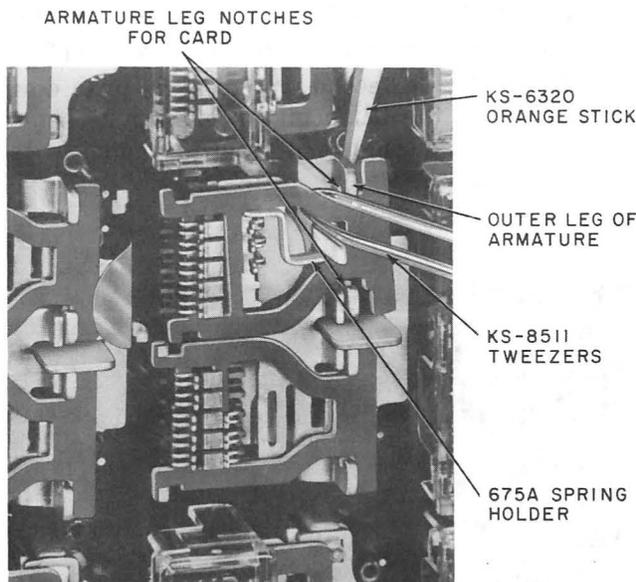

Fig. 28—Disengaging Card from Armature Legs
4.17 Apply the KS-6320 orange stick to the right side of the outer leg of the armature behind the card and hold the armature in the unoperated position as shown in Fig. 28. With the KS-8511 tweezers, grasp the upper section of the card as shown in the figure and move the card to the right to disengage it from the armature leg notches. Pull the card forward so it is in front of the armature legs. Remove the orange stick from the armature.
4.21 Make sure that the circuit designation has been stamped on the new card as covered in 4.08. With the black surface of the new card uppermost and the two notches for the balancing spring legs at the left, grasp the card at the upper notch with the KS-8511 tweezers. Place the card, black surface outermost, on the relay so the fixed contact springs are between the two vertical parallel sections of the card. Engage the card on the armature legs as follows: Apply the KS-6320 orange stick to the right side of the outer leg of the armature behind the notch for the card and hold the armature in the unoperated position (see Fig. 28). Grasp the upper section of the card with the tweezers, and move the card to the right and back so the card is in line with the notch in each armature leg. Remove the orange stick from the armature and guide the card into the notches.
(b) Disengage the card from the armature legs as follows: Apply the KS-6320 orange stick to the right side of the outer leg of the armature behind the card and hold the armature in the unoperated position (see Fig. 28). Grasp the upper section of the card with the KS-8511 tweezers and move the card to the right and outward to disengage it from the armature legs. With the orange stick applied to the right side of the card, hold the card as far as possible to the left. Grasp the bottom handle of the holder, swing it outward, and carefully withdraw the notched section through the gap between the make contacts. Release the card.
(c) Remount the card in the armature leg notches as follows: Apply the KS-6320 orange stick to the right side of the outer leg of the armature behind the notch for the card and hold the armature in the unoperated position (see Fig. 28). Grasp the upper section of the card with the KS-8511 tweezers, and move the card to the right and back so the card is in line with the notches in each armature leg. Remove the orange stick from the armature and guide the card into the notches.